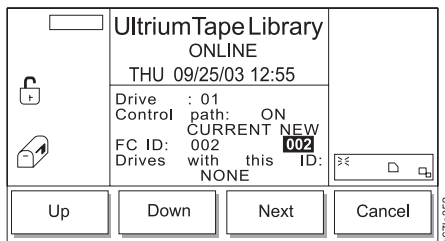

Figure 4-108. FC ID Dialog
- Press the button below the **Next** softkey. The FC ID Dialog displays (see Figure 4-108).